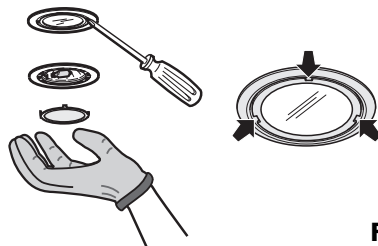

Fig. 3
2. Use a small screwdriver to gently prise the lamp cover off (at the points indicated in Fig. 3).